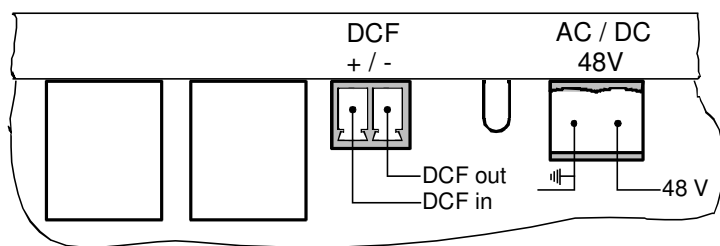

Fig. 6
- Connect the 48V power supply to the "AC/DC 48V" plug (Fig. 6).
- The Radio time signal receiver (DCF / MSF 450 (4500)) must be connected to the terminals "DCF in" and "48V GND" (see Fig. 6, 8, 9).